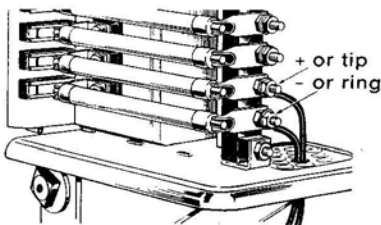

Figure 5. Polarities and drop-wire connections at a typical pole-mounted protected cable terminal.
*The *r* alliteration *ring=right* applies at a strand-mounted or sheath-mounted cable terminal or at an *unprotected* pole-mounted or wall-mounted cable terminal. At a *protected* pole-mounted or wall-mounted cable terminal, use instead the *t* alliteration *tip=top*, and connect the \div line to the *upper* terminal-stud of the pair, as in figure 5.